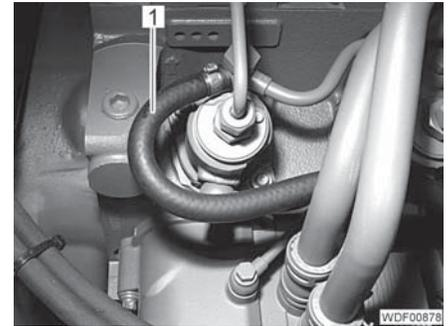

Fig. 20 Fuel return line
- Close off and separate fuel return line (Fig. 20,1) (e.g. with a hose clamp).